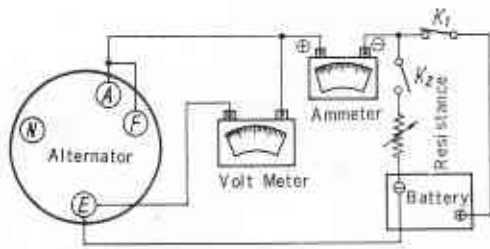

Fig. EE-29 Meter and Instrument Connection for No Load Test
1. Connect an ammeter and a voltmeter as shown in Fig. EE-29.